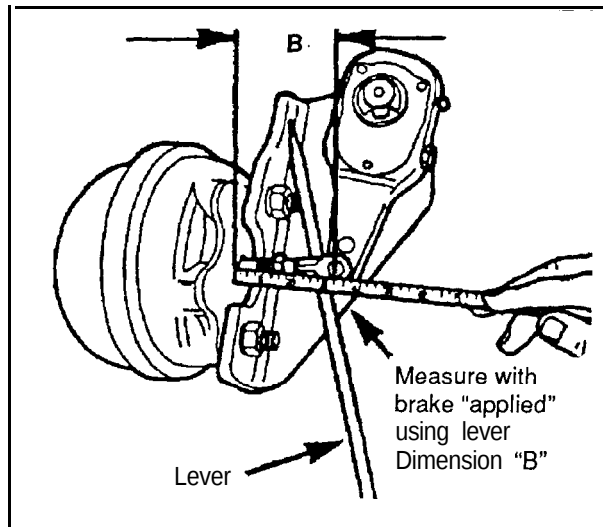

FIGURE 6
2. With a lever, pry the slack adjuster arm until the brake shoes contact the drum and measure the slack adjuster movement (see Figure 6).